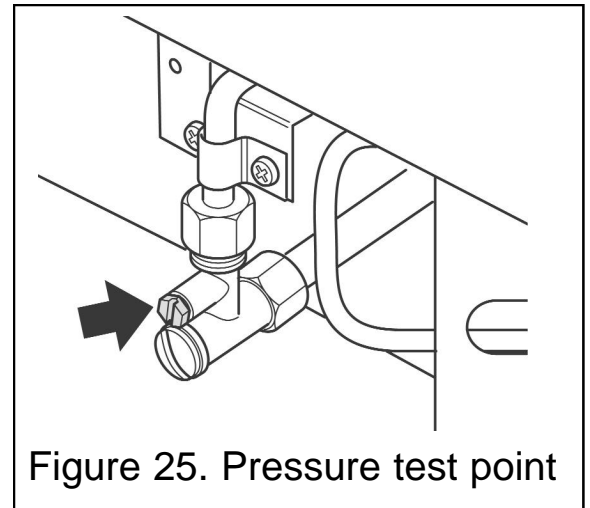

Figure 25. Pressure test point
1. Check the inlet pressure by fitting a pressure gauge at the test point. The test point is on the inlet 'T' connector. See figure 25. Check the pressure with the appliance alight and set at maximum output.